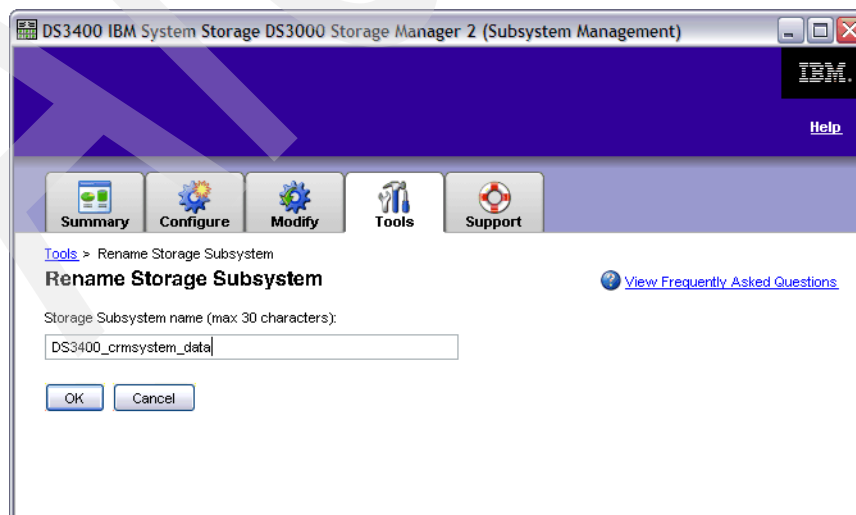

Figure 12-2 Rename Storage Subsystem
1. Click **Rename Storage Subsystem** (Figure 12-1 on page 258) to open the associated view (Figure 12-2).